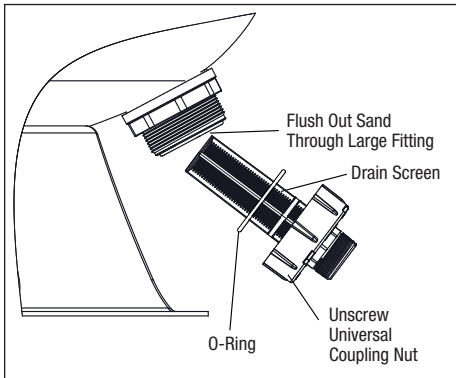
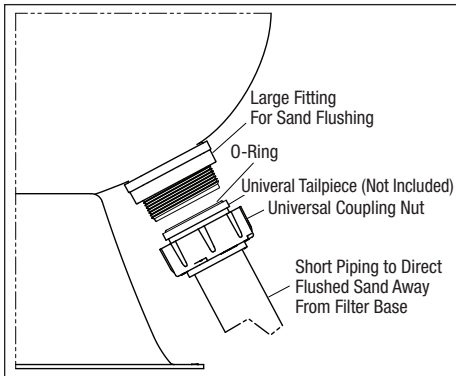

Figure 8. Sand Flushing Fitting
Figure 9. Universal Tailpiece Connections
15. A large fitting is provided at the tank drain to allow the flushing of sand from the filter tank. See Figure 8. Sand removal is easiest without further restriction at this fitting. If a short piece of piping is desired to direct the sand being flushed away from the filter base, a universal tailpiece can be used for this purpose. Use this tailpiece to connect piping with the universal union nut as shown in Figure 9.